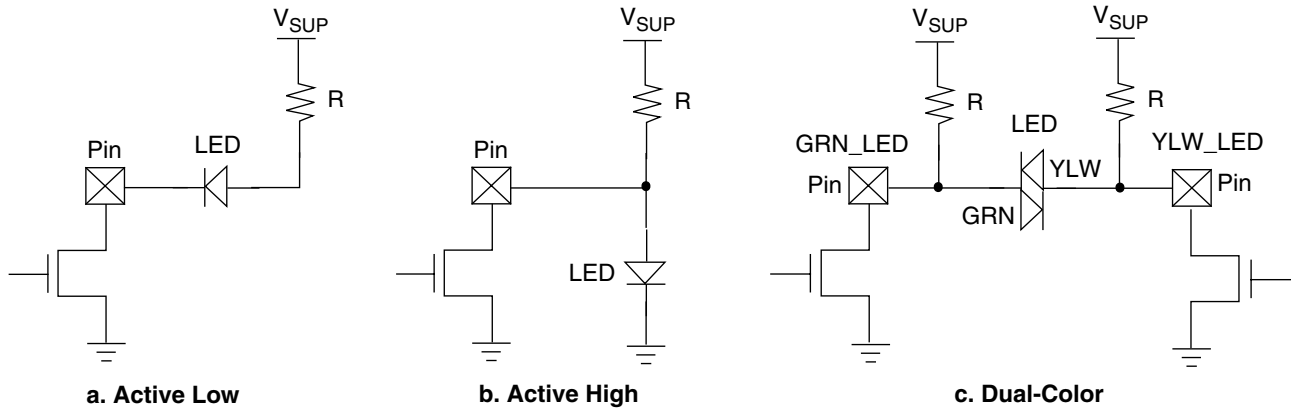

Figure 14. LED Connection Configurations
The LEDs can be connected to PC8374L using one of the configurations shown in Figure 14.
In this mode, two regular LEDs must be connected to the GRN_LED and the YLW_LED pins, according to configuration “b” (Active High) in Figure 14.
Table 37 on page 91 shows the states of the GRN_LED and YLW_LED pins. The LEDs are connected according to configuration “b” (see Figure 14); therefore, a LED is on when the pin is floated and off when the pin is at low level (0).
In the Advanced LED control option, one dual-color LED or two regular LEDs can be connected to the GRN_LED and the YLW_LED pins, using any of the configurations shown in Figure 14. LEDCFG and LEDPOL bits in ALEDCTL register (at offset 02h; see Section 4.3.4 on page 93) must be set to reflect the connection configuration of the LEDs.
LEDCFG bit selects either configurations “a” and “b” (two regular LEDs are connected between each pin and ground or V_{SUPP}) or configuration “c” (one dual-color LED is connected between the GRN_LED and YLW_LED pins). LEDPOL bit selects the polarity of the On state at both pins (GRN_LED and YLW_LED). Table 35, shows the value of LEDCFG and LEDPOL bits for each LED connection configuration in Figure 14, and also the state of the GRN_LED and YLW_LED pins for which the LED(s) are On.
Special LED control is the default LED control option. In the Special LED control option, configuration “b” or “c” in Figure 14 can be used.
Table 39 on page 94 shows the states of the GRN_LED and YLW_LED pins. The LEDs are connected according to configuration “b” (see Figure 14 on page 87); therefore, a LED is On when the pin is floated; it is Off when the pin is at low level (0).